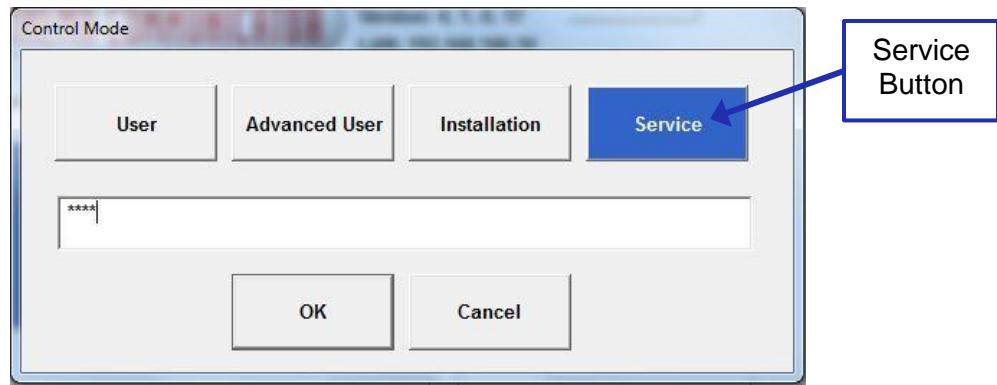

Figure 33: Control Mode Window
- In the Control Mode window that appears, select Service. Input the correct password and click Ok. To obtain the password, contact your administrator (Figure 33).